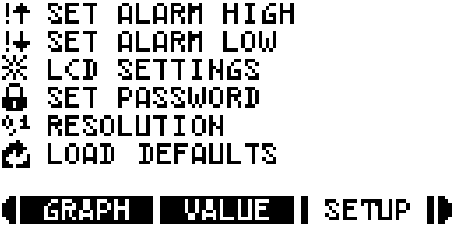
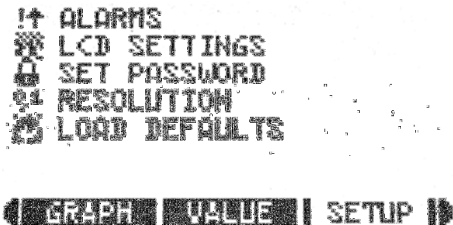
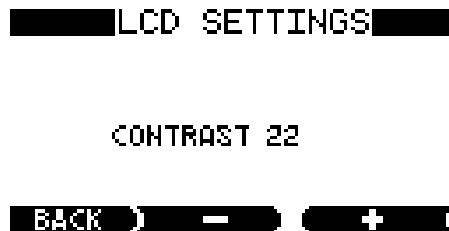

Figure 5: SETUP mode Screenshot
Figure 6: SETUP mode Screenshot (Firmware 1.17)
Figure 12: LCD settings screen
When in VALUE mode pressing the right most of the three navigation buttons will open the SETUP mode. In firmware versions before V1.17 the SETUP mode has six options as shown in Figure 5 below.
In firmware versions after V1.17 the SETUP mode has five options as shown in Figure 6 below.
- 2ii) This brings up the menu as shown in Figure 5 or Figure 6.
- 3ii) This brings up the menu as shown in Figure 5 or Figure 6.
- 4ii) This brings up the menu as shown in Figure 5 or Figure 6.
The LCD SETTINGS menu is used to adjust LCD display contrast. To open the LCD SETTINGS menu highlight the LCD SETTINGS option in the SETUP menu (see Figure 5) and select by pressing the ENTER button. Figure 12 below shows the display with the LCD contrast value selected for setting. The + and – buttons allow value of the display contrast to be adjusted for best visibility.
- 5ii) This brings up the menu as shown in Figure 5.
- 5iv) Use the right-hand button labelled with an arrow to scroll through the menu. Highlight LCD SETTINGS then press the central ENTER button. This brings up the LCD SETTINGS SCREEN, shown in Figure 12.
- 6ii) This brings up the menu as shown in Figure 5.
- 7iv) Use the right-hand button labelled with an arrow to scroll through the menu. Highlight RESOLUTION then press the central ENTER button. This brings up the resolution screen, shown in Figure 12 in its percentage mode. If the gas concentration is low it will show in parts per million, ppm.